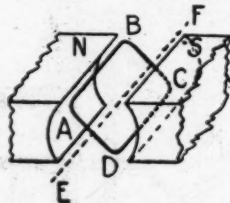
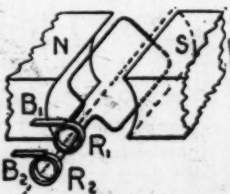

Fig. 13—Most simple form of generator
Fig. 15—A simple alternator
1—Direct current is obtained from a generator which consists of two parts—a magnetic field which may be produced by permanent magnets or electro-magnets, and an armature consisting of one or more loops of wire. The most simple form of a generator is shown in Fig. 13. If you take a single loop of wire such as (ABCD) in Fig. 13, and revolve it about an axis (EF) in the magnetic field of a permanent or electro-magnet, there will be an electromotive force induced in the two sides of the loop (AB) and (CD). This induced electromotive force will produce a current in the loop if the conductor forming the loop is closed. The direction of the induced e.m.f. in the two sides of the loop can be determined by Fleming's "Right-Hand-Rule."
If you take the loop shown in Fig. 13, cut it at one end and fasten metallic rings insulated from each other and mounted on a shaft to the ends thus formed, you will have what is known as a simple alternator. This machine is shown in Fig. 15. An external circuit can be connected to the armature or coil by means of two brushes (B-1) and (B-2) that rub on the metallic rings.